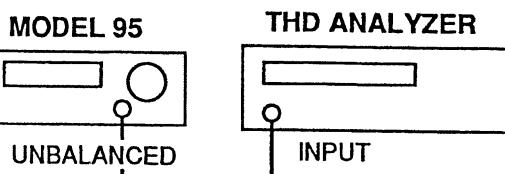

Figure 3-7. Sine Purity Setup
2. Connect the Model 95 and test equipment as shown in figure 3-7.